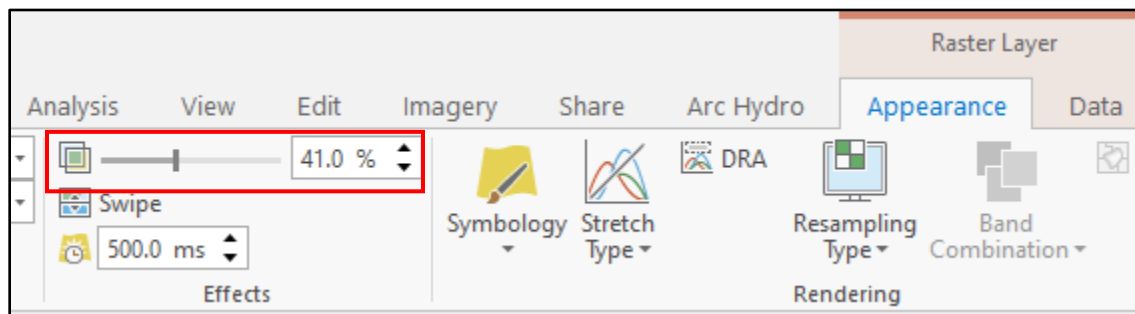

Figure 22
3. When viewing georeferenced record construction plans, it's helpful to adjust the transparency of the TIFF to at least 60% so the aerial map can be seen through the plan. The transparency of a TIFF file can be adjusted in the Appearance Tab under Effects (Figure 22).